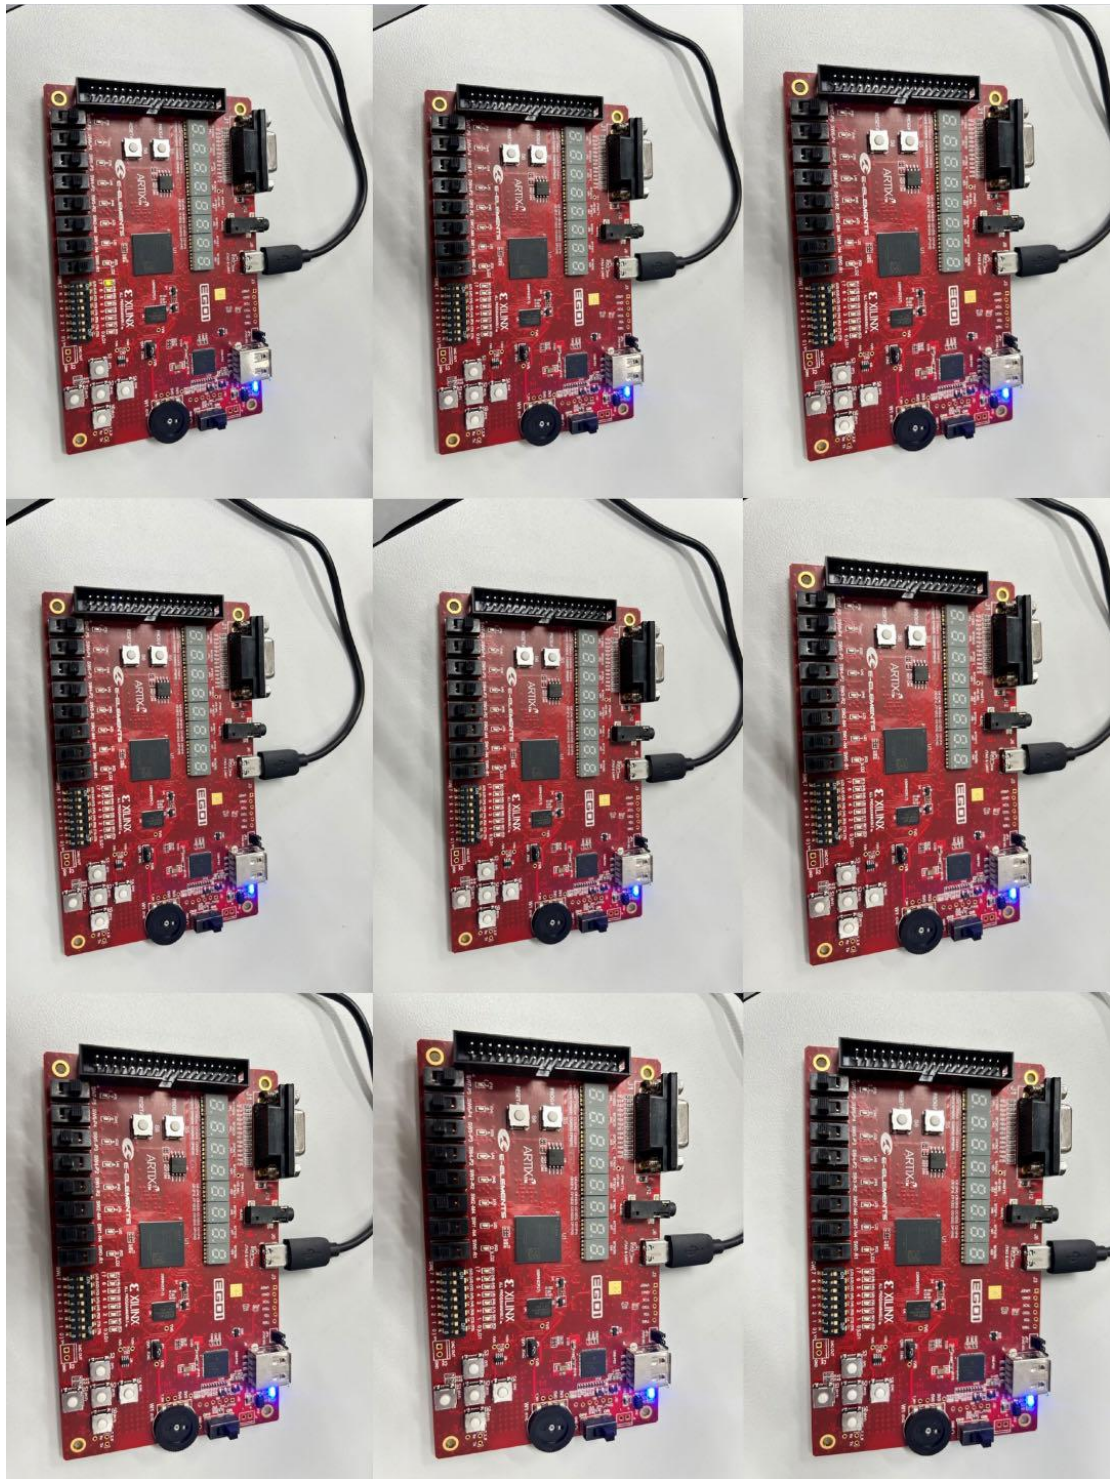

Figure 1 Results of 8-input AND gate
As shown in Figure 1, only when all the 8 switches (SW7~SW0) are on, the LD1(7) is on. Otherwise, the LD1(0) is off.